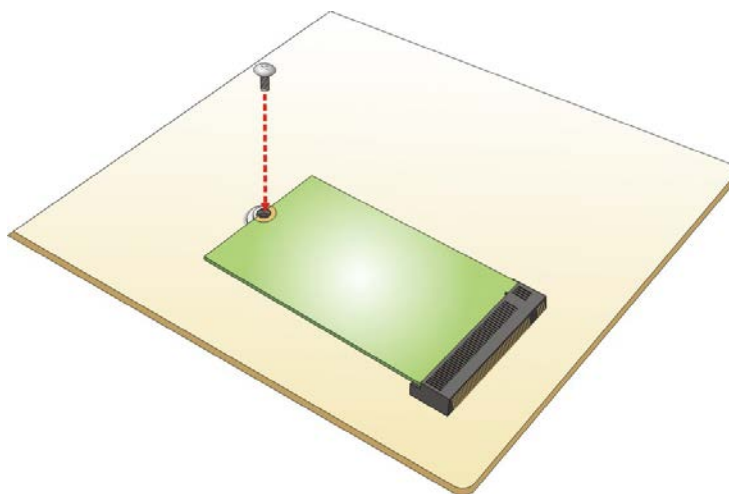

Figure 3-8: Securing the M.2 Module
Step 6: Secure the M.2 module with the previously removed retention screw (**Figure 3-8**).